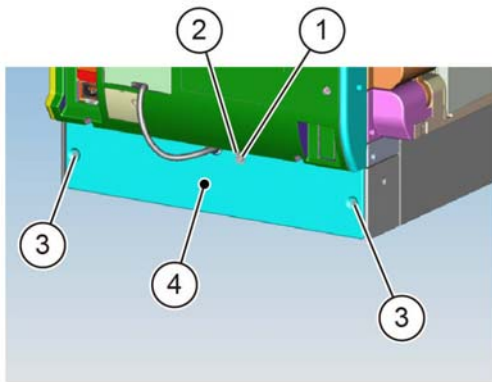

Figure 1 Rear cover removal
1. Remove the rear cover, Figure 1:
- a. Remove the docking screw (1).
- b. Remove the docking bracket (2).
- c. Remove two screws (3).
- d. Remove the rear cover (4).